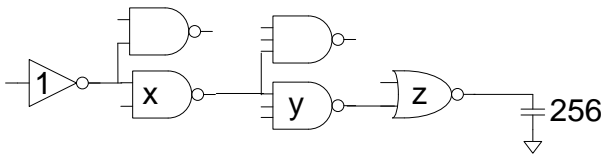

Fig. 16
16. A logic path as shown in Fig. 16. (5%)